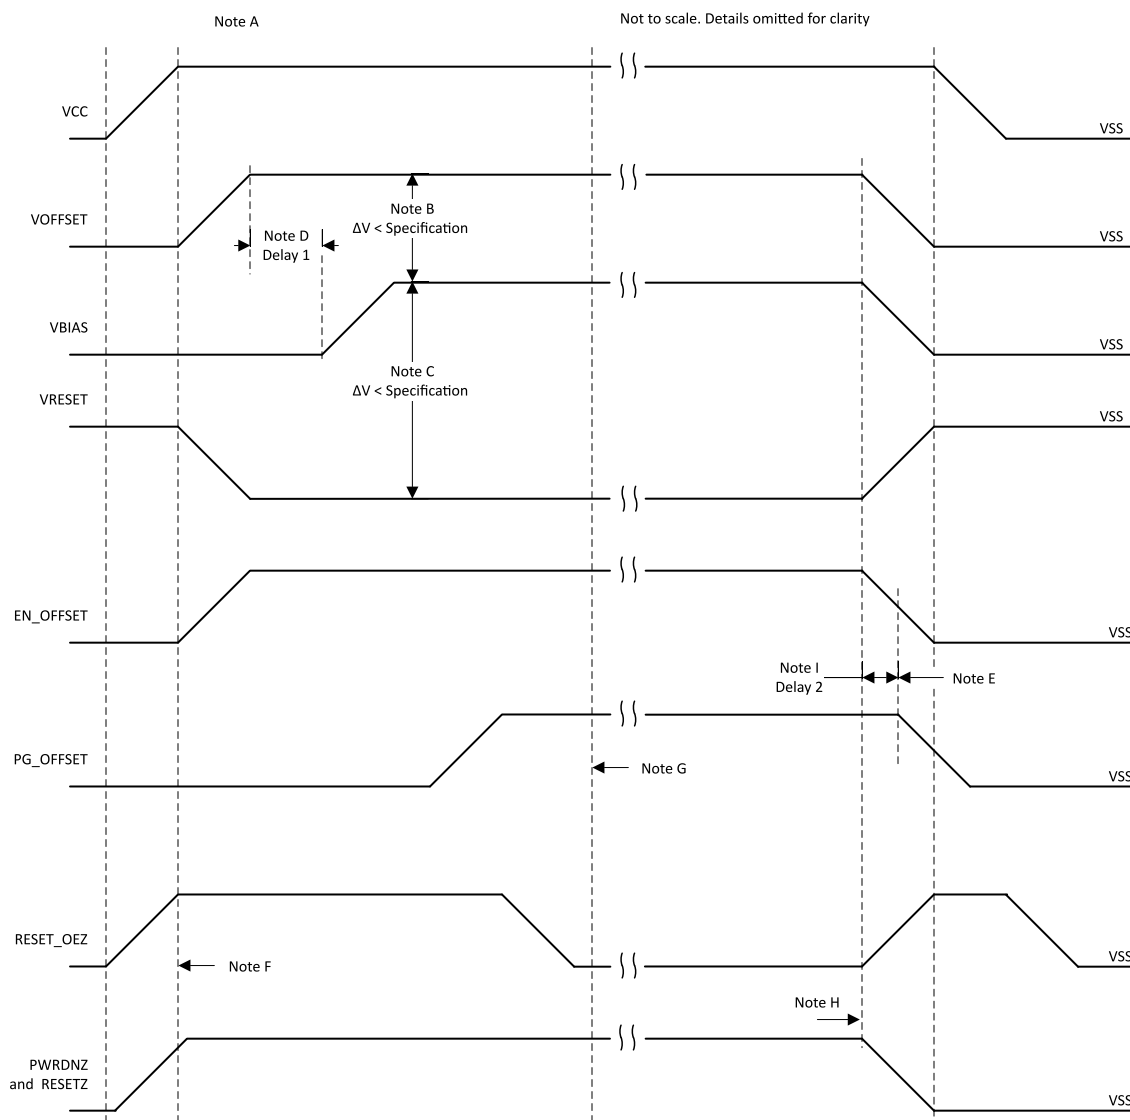

图 9-1. DMD Power Supply Requirements
For reliable operation of the DMD, the following power supply sequencing requirements must be followed. Failure to adhere to any of the prescribed power-up and power-down requirements may affect device reliability. See 图 9-1.
- Power supply slew rates during power-up are flexible, provided that the transient voltage levels follow the requirements specified in 节 6.1, in 节 6.4, and in 图 9-1.
- Power supply slew rates during power-down are flexible, provided that the transient voltage levels follow the requirements specified in 节 6.1, in 节 6.4, and in 图 9-1.